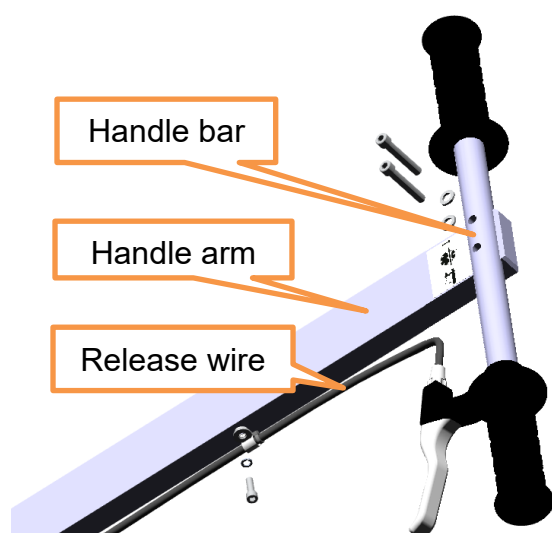

Figure 3:
1. Unscrew the bolts and remove the throttle wire from the handle arm together with the clamps (figure 3).
2. Unscrew the bolts and remove the handle bar (figure 3).